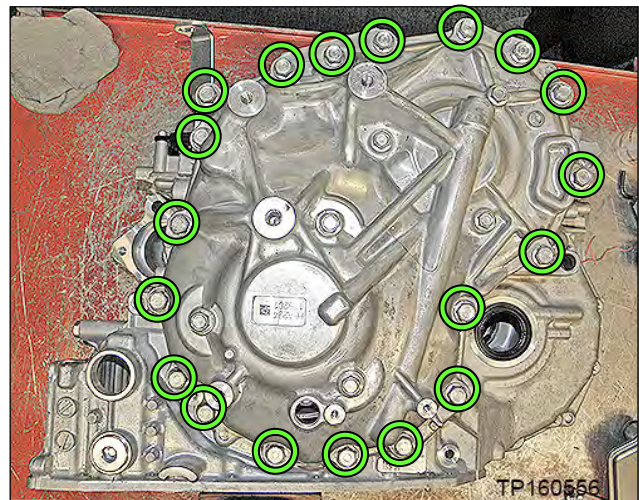

Figure 75
56. Remove the nineteen (19) side cover fixing bolts (Figure 75).